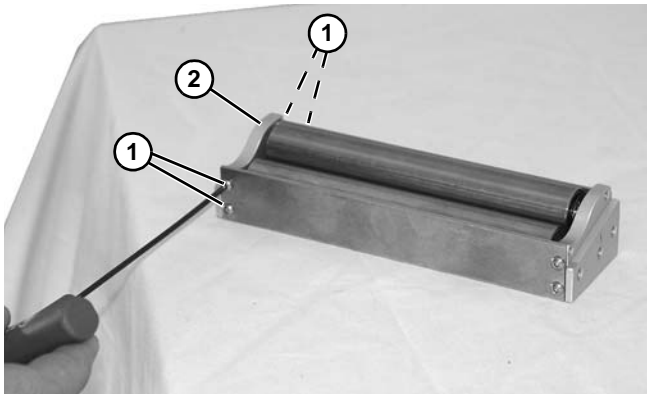

Figure 40
5. Remove two screws (Figure 40, item 1) from each side of roller mounting block (Figure 40, item 2).